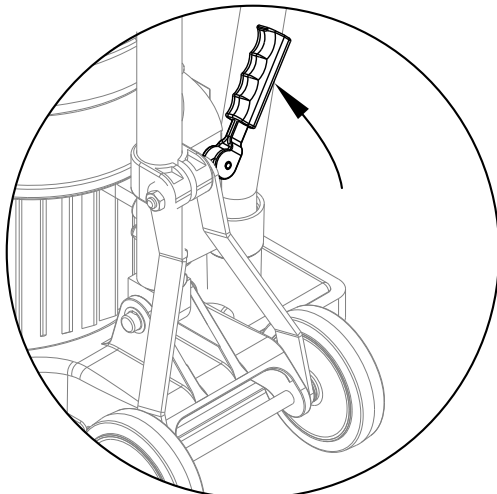

Figure 1
2. Raise and lock the handle to the upright position. To lock the handle, pull up on the Handle Release Compression Lever. See figure 1.